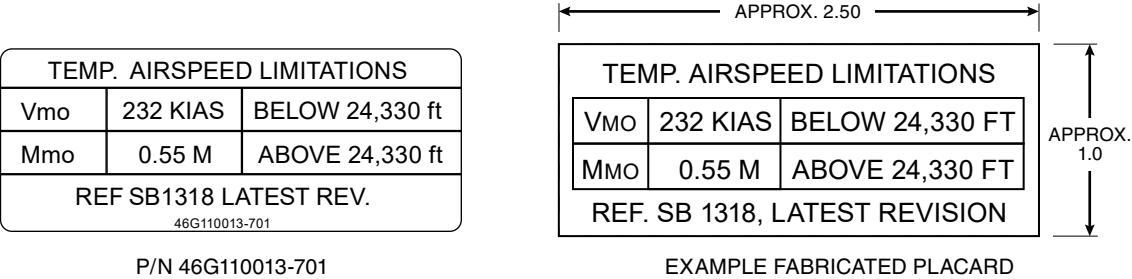

Figure 2
Alternatively, it is permissible to either 1) fabricate a placard or 2) utilize one of the placards in Figure 2:
- The size of the placard shall be no greater than one (1) inch high by 2.75 inches wide (1 x 2 3/4).
- The layout of the text shall agree with the example fabricated placard in Figure 2.
- 2) Print and cut out either of the example placards from Figure 2. Print the placard at the actual size.